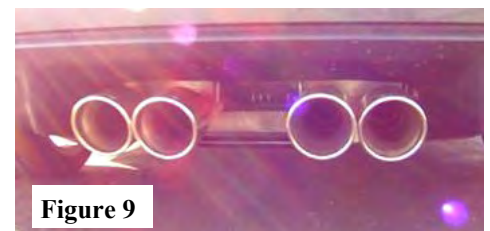

Figure 9
8. Align tips and tighten hardware. Loosen clamps to rotate or slide pipe for better alignment. (See Fig. 9)